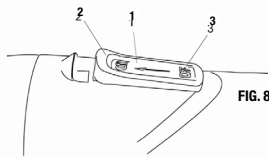

FIG. 8
To turn the switch ON, press the back of the switch slider (3) into the body of the tool. While pressing on the rear of the slider, push it forward (1) until the front part of the switch (2) engages the catch (Fig. 8). When the switch “snaps” into position, the switch will remain ON and the motor will continue running. To turn the switch OFF, press the rear of the slider into the Angle Grinder body. The switch will “snap” to the OFF position.